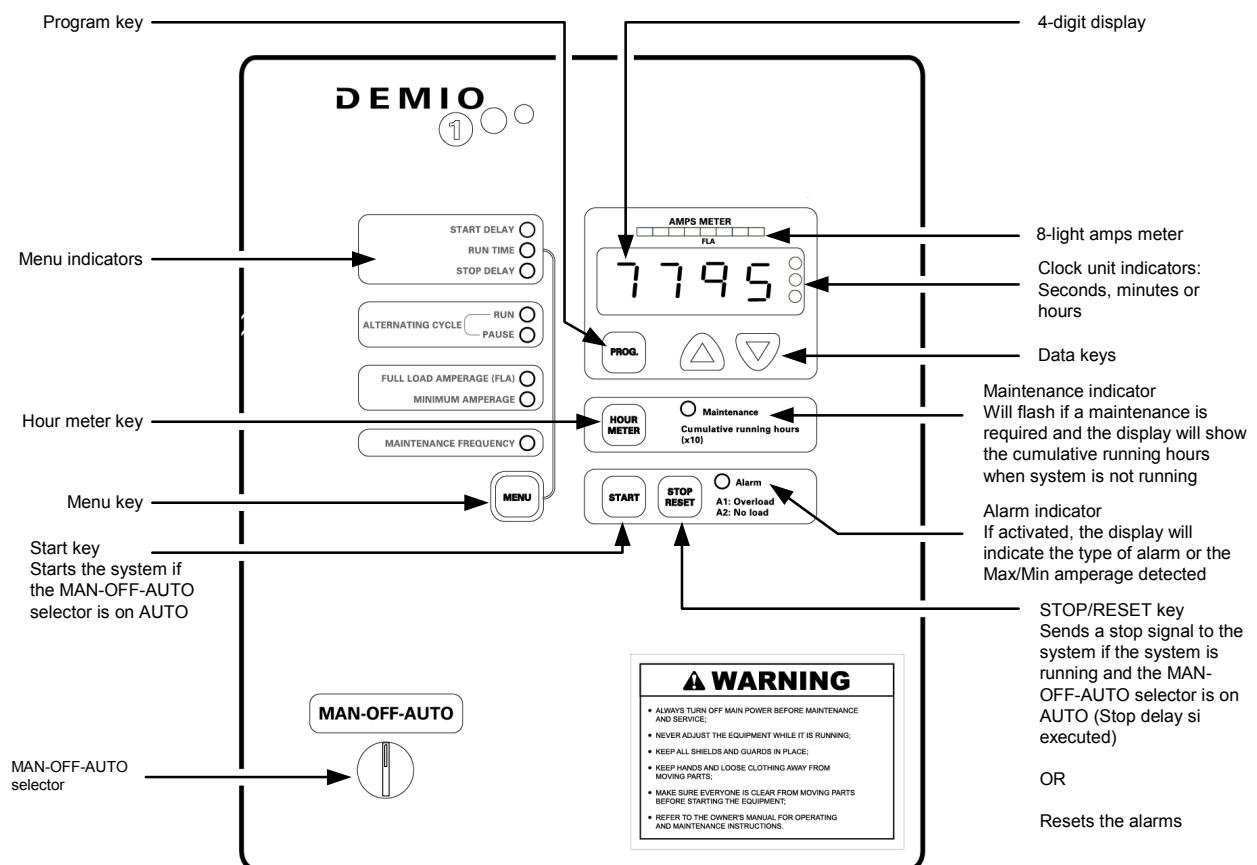

Figure 1: DEMIO control panel
- Start key (Front of panel, see Figure 1).
- Start signal (Two wire START/STOP signal): A start signal is received when this input is activated (ON). If this input is deactivated (OFF), it is not considered as a Stop signal. This signal is usually used with the Stop signal and/or a run time.
- Stop key (Front of panel, see Figure 1).
- Stop signal (Two wire START/STOP signal): A stop signal is received when this input is activated (ON).